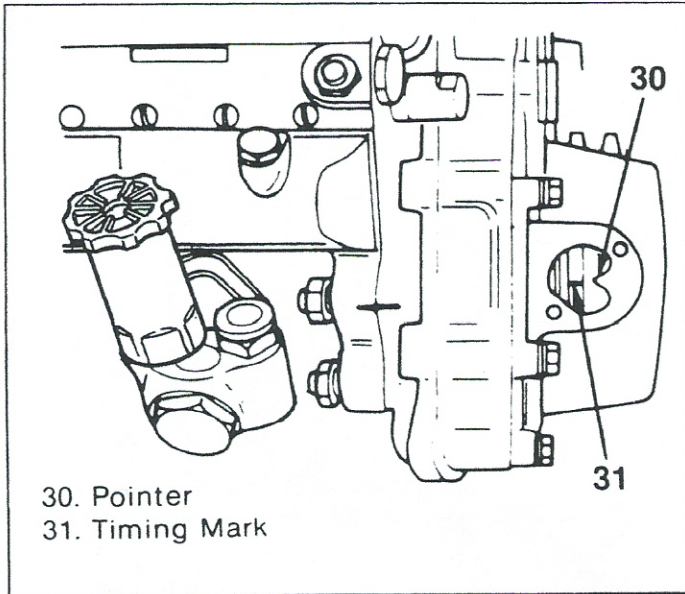

Figure 18. Timing Marks and Pointer
- Install the injection pump so that the timing mark on the timer aligns with the pointer on the timer housing (figure 18).
3. Check that the marks on the automatic timer and the pump housing are properly aligned (figure 18).